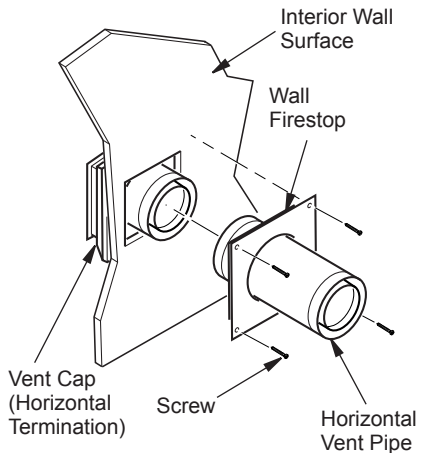
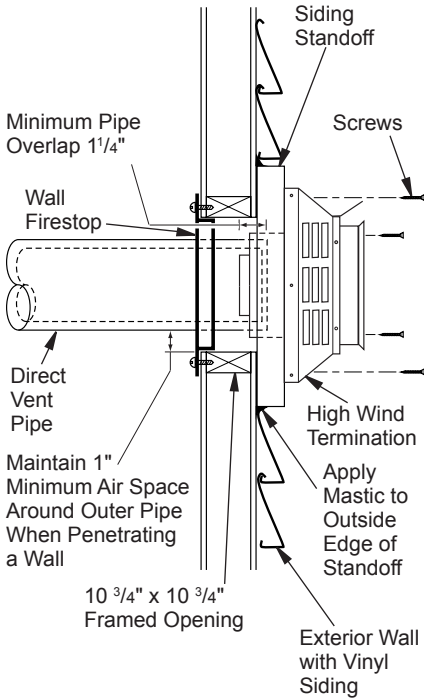

Figure 12 - Connecting Vent Cap with Horizontal Vent Pipe
Figure 13 - Typical Horizontal Termination Cap Mounting with Additional Siding Standoff Installed
7. **Combustible Exterior Wall Only:** Slide the wall firestop over the vent pipe before connecting horizontal run to vent cap (see Figure 12).
8. Carefully move fireplace, with vent assembly attached, toward wall and insert vent pipe into horizontal termination. The pipe overlap should be a minimum of 1 1/4" (see Figure 13, page 11).
9. **Combustible Exterior Wall Only:** Slide wall firestop against interior wall surface and attach with screws provided (see Figure 12). See Figure 13, page 11, for horizontal termination details.